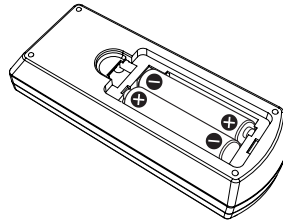

Fig. 2
- 2) **Insert batteries and close the cover. (Insert the  $\ominus$  side first.) (Fig. 2)**